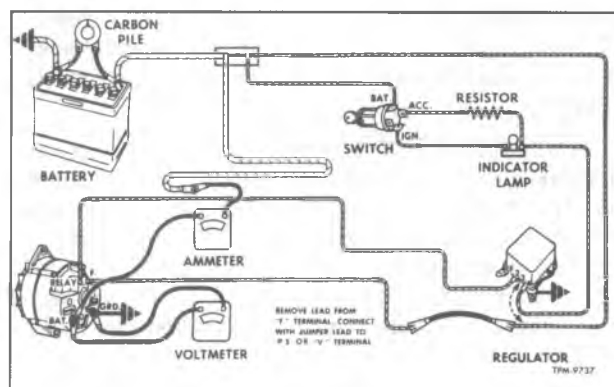

Figure 9—Connections for Testing Generator Output (Except 9000590 Regulator) (Typical)
2. Remove wire from "BAT" terminal on generator, and connect an ammeter between wire and "BAT" terminal on generator (fig. 9).
**IMPORTANT:** With wiring connected as shown in figure 9, the voltage regulator is taken out of the circuit, and causes field to be energized by full battery voltage. Generator output voltage must be controlled by loading the battery with a carbon pile or turning on vehicle accessories. Do not permit voltage to exceed setting specified for regulator as listed in "Specifications."